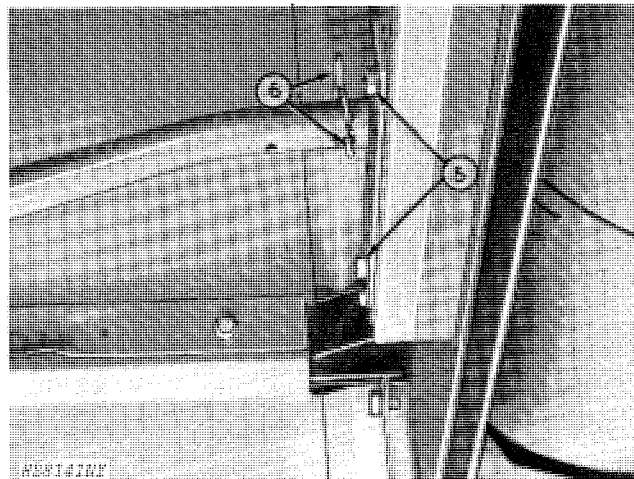

Fig. 18-Adjusting Transport Tube Support
5. Loosen the two nuts on support (Fig. 18).
6. Position auger back against grain tank and insert spring pin through locking stud (Fig. 18). Tighten the two nuts on the support.